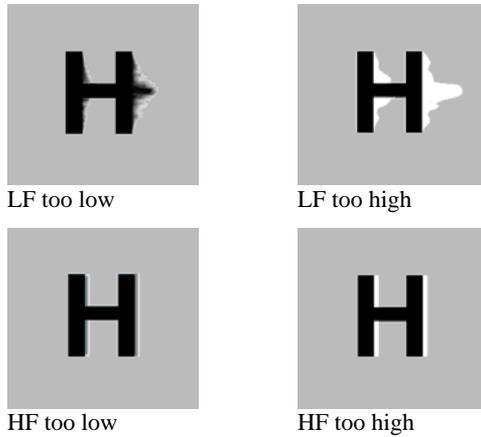

Figure 13 **Problems with smearing and sharpness requiring LF and HF adjustment**
8. Optionally, fine-tune the LF equalization to remove ‘black video smearing’ - black smears to the right of large objects such as window title bars (see Figure 13).
9. Optionally, fine-tune the HF equalization to sharpen the video image. Increase HF Equalization until a white edge to the right of small characters just starts to appear (see Figure 13).